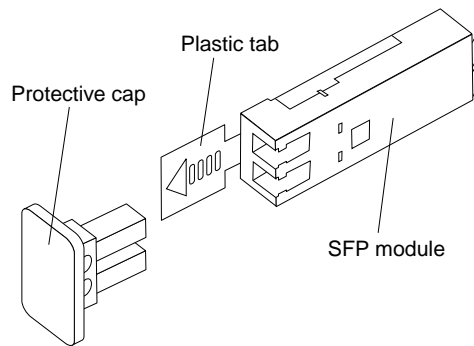

Figure 12. Small Form-Factor Pluggable (SFP) Module
2. Remove the protective cap from the SFP module, as shown in Figure 12 on page 17. Save the protective cap for future use.
2. If necessary, remove the protective cap from the SFP module, as shown in Figure 12 on page 17. Save the protective cap for future use.